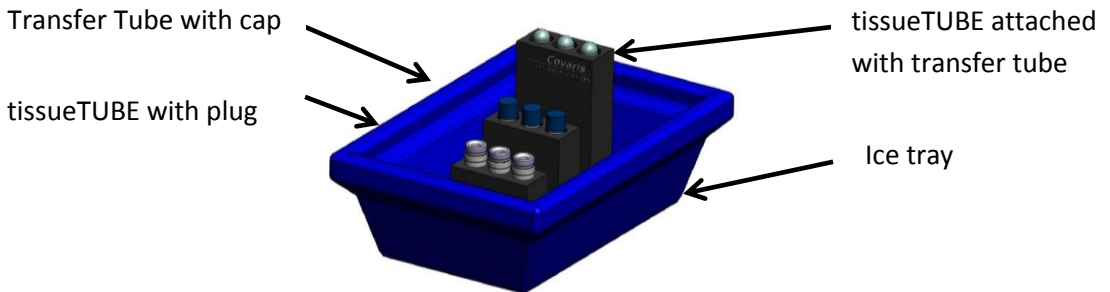

Figure 3 – Prep station set up
- 3. Pre-chill the tissueTUBE-Transfer Tube complex** – Label the tissueTUBE before placing it on dry ice. If using the Prep Station, the larger transfer tubes (TC 16 or TC 20) can be pre-chilled by placing them into the second position in the Prep Station shown in Figure 3.